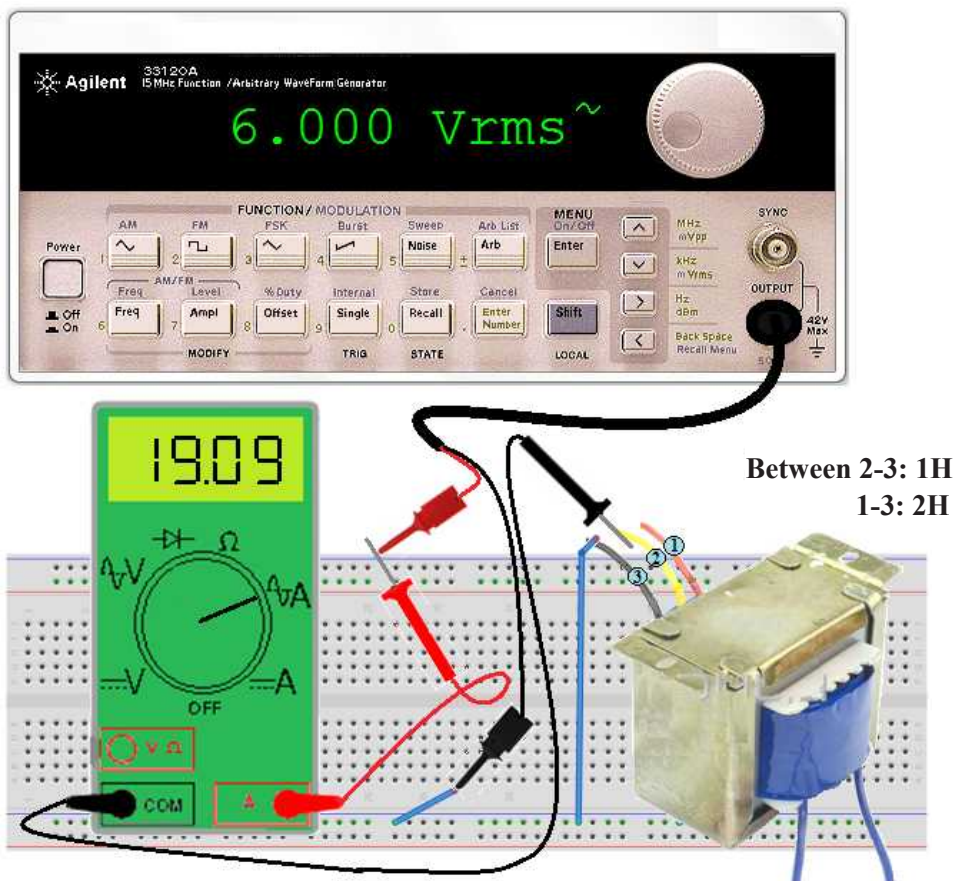

Figure 2-64: Inductive reactance of an inductor creates an opposition to sinusoidal current
8. Connect the circuit as shown in the figure 2-64 (make sure the ammeter is in series with the transformer's inductance)
11. Connect the neutral of the function generator to the third wire (3) of the transformer
12. Connect the multimeter's red lead to the line output of function generator and the black lead of the multimeter to the second wire (2) of the transformer and then observe the ammeter reading. The ammeter reading is about 19.099mA.
13. Move the black lead of ammeter to the first wire (1) of the transformer and again observe the ammeter reading. The ammeter reading is about 9.549mA.